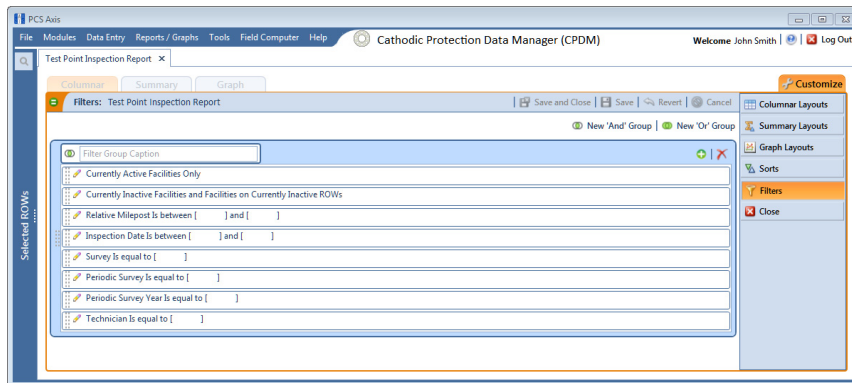

Figure 16-55. Filters
- 3 Click the **Customize** tab  then the **Filters** button  to open the *Filters* page (Figure 16-55).